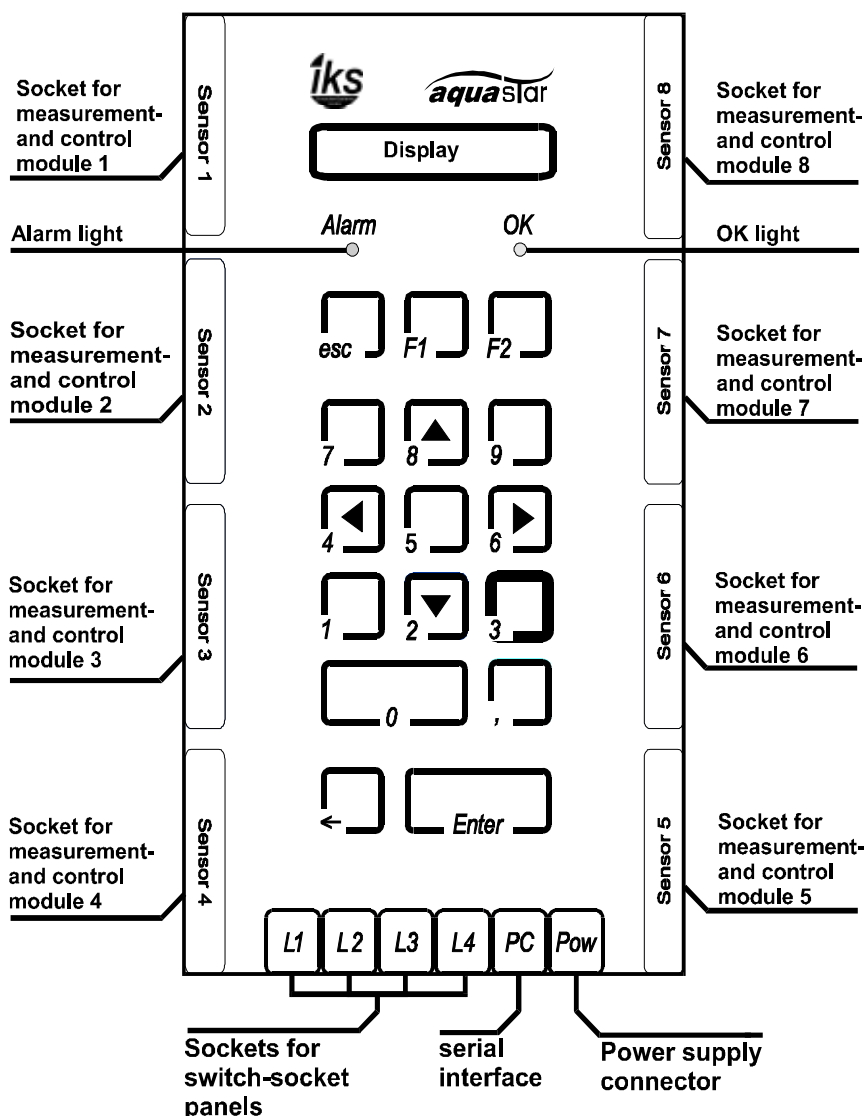
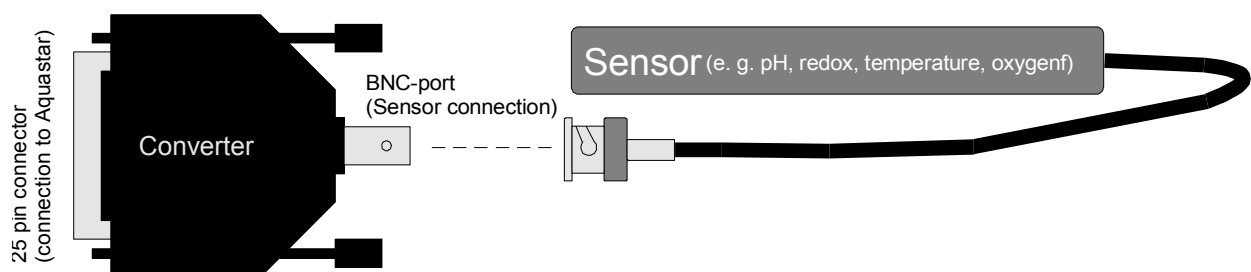

Fig. 1
Fig. 3: Measurement- and control module
With the help of a picture (Fig.1), **Section 3** introduces the *iks aquastar* and explains what's included in the package. Once you've read this, you will know where to connect the sensor modules, the switch-socket panel, the power supply and the PC.
3.1 Operating elements (Fig. 1)
- a measurement converter (see Fig. 3)
- a measurement converter (Fig. 3)
As you can see from the diagram (Fig. 1) in Section 3, the *iks aquastar* has eight sockets for measurement- and control modules. It's up to you which module you connect to which socket. Please observe, however, that you must, at all costs, **turn off the power supply** when connecting and disconnecting a module to avoid the possibility of causing damage. A measurement- and control module comprises a sensor (e.g. a temperature sensor, a pH electrode etc.) and a converter (Fig.3) contained within a black housing (SUB-D). This converter has on one side a BNC port for connecting the sensor and on the other, a 25-pin SUB-D port for connecting the *iks aquastar*. Level- and conductivity sensors are directly and securely connected to the 25-pin plug. Now you can connect **the modules (power supply off?)**. Their asymmetrical form ensures that the plugs are fitted correctly into the ports. Don't forget to connect the appropriate sensor to the converter. After you have connected a module we advise you to tighten the two securing screws (on the black plug-housing) to prevent the module being inadvertently pulled out.
As shown in Fig. 1, you can connect up to four switch-socket panels to the *iks aquastar* on L1 to L4 (thereby giving you a total of 16 sockets that can be activated individually). These sockets are labelled L1 to L4. The sockets on L1 have been given the numbers 1 to 4, on